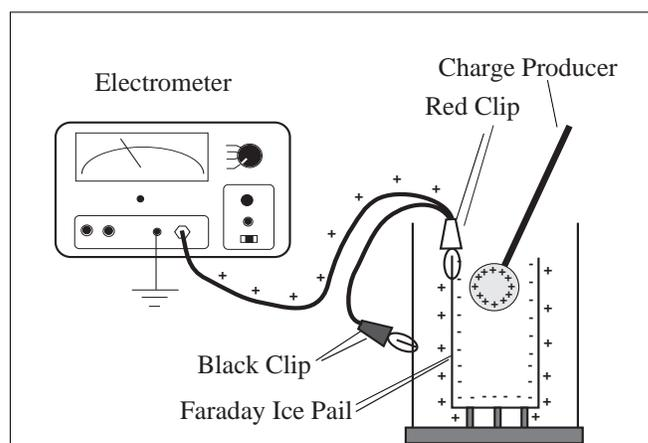

Figure 1
- Connect the electrometer input lead (red alligator clip) to the ice pail to create a system for measuring charge. The electrometer ground lead (black alligator clip) attaches to the shield. (Setup is shown in Figure 1.) Adjust the sensitivity of the electrometer so that most readings appear in the upper 2/3 of the scale.